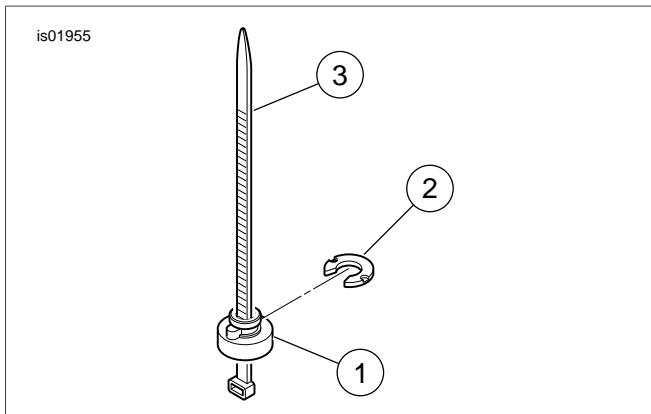

Figure 2. Installation Tool
- See Figure 2. A cable strap may be used as an installation aid to install the retention nut and washer. Place the retention nut (1) over the cable strap (3) so the wide end of the nut rests on the eye of the cable strap. Thread the cable strap up under the fender and through the appropriate fender hole. Pull up on the cable strap to hold the nut snug against the underside of the fender.